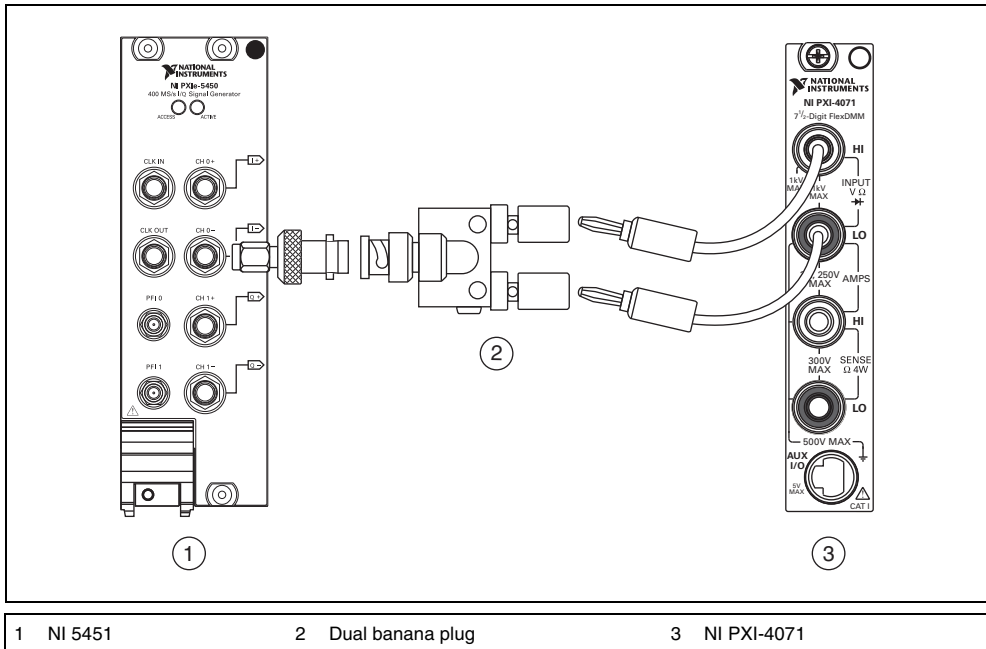

Figure 5. DC Voltage Common Mode Offset Accuracy Verification Connection (CH 0)
6. Connect the NI 5451 CH 0+ output to the positive input of the DMM and the cable shield ground of the NI 5451 CH 0+ output to the negative input of the DMM, as shown in Figure 5.
6. Connect the NI 5451 CH 0– output to the positive input of the DMM and the cable shield ground of the NI 5451 CH 0– output to the negative input of the DMM, as shown in Figure 5.